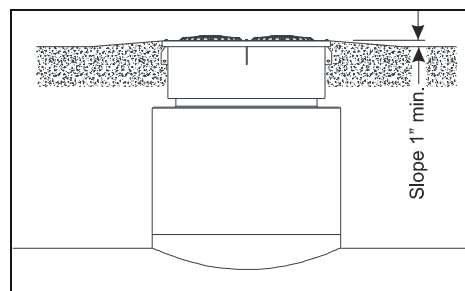

Figure 7
22. Ramp or dome the concrete away from the POMEKO Manhole cover. There should be a minimum of 1-inch slope to finish grade. This is to direct water flow away from the cover. (See Figure 7.)